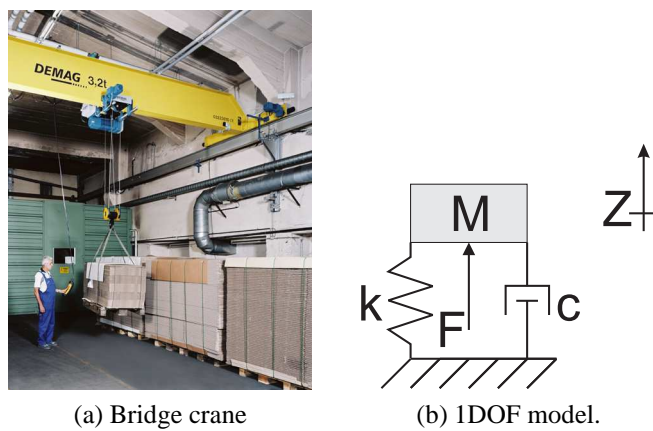
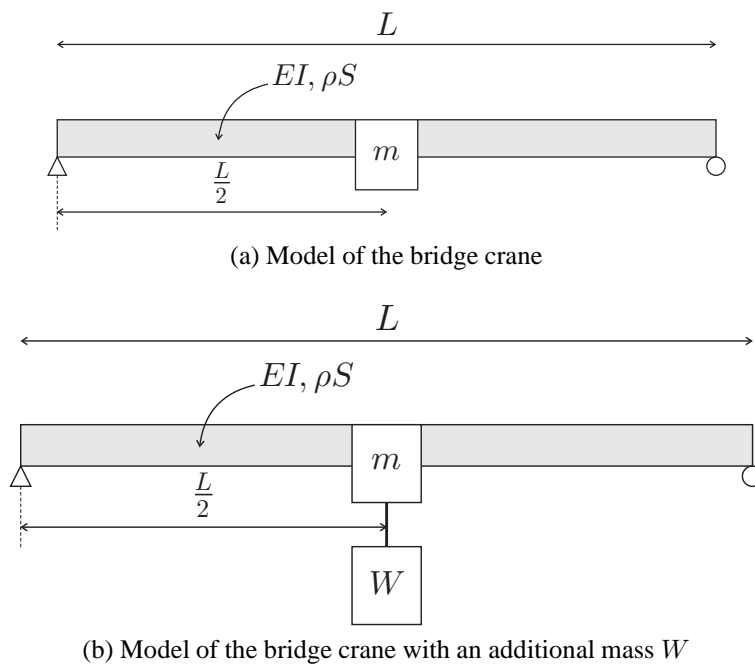

Figure 1: Bridge crane and equivalent SDOF system
Figure 2: Bridge crane model with and without additional mass
Consider a bridge crane consisting of a simply supported beam to which the lifting system is attached, as shown in Figure 1(a). The system can be modeled as a simply supported beam to which a mass m (equal to the total mass of the lifting system) is attached, as shown in Figure 2(a).
1. Determine the stiffness k , and the mass M of the equivalent 1 DOF system represented in Figure 1(b) (use the tables provided). Use the energy method in order to determine the part of the equivalent mass due to the mass of the beam. Give the expression of the eigenfrequency of the equivalent 1 DOF system.
3. Assume that an additional weight of mass $W = 1000kg$ is attached to the lifting system (Figure 2(b)). At time $t = 0$, The rope attaching this additional mass is cut. Plot the shape of the evolution of the displacement in the vertical direction at position $x = L/2$ as a function of time (assume a damping value of $\xi = 0.01$ and use the equivalent 1 DOF representation). Indicate the value of the period of oscillation. How many oscillations are needed to reduce the amplitude of vibration by approximately one half?